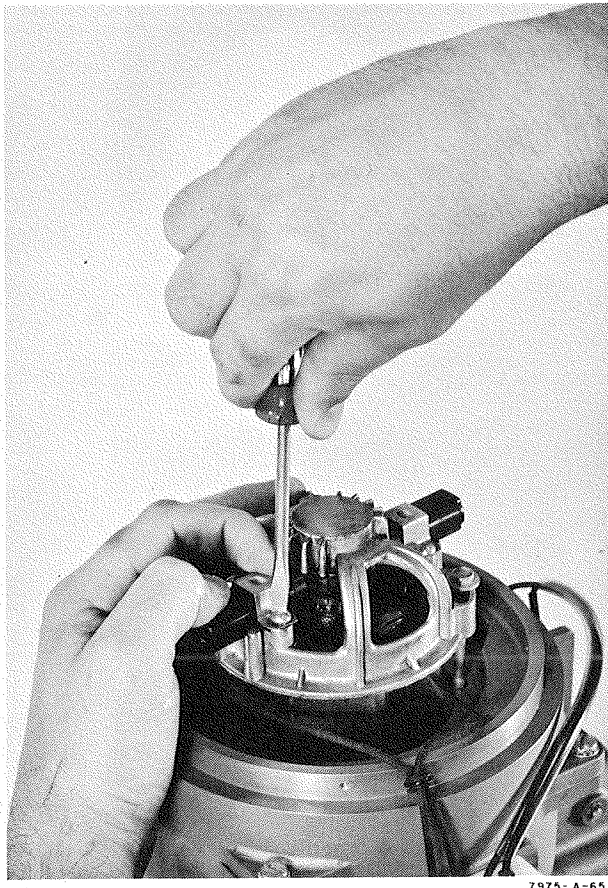

Figure 7-8. Removing Brush Holder
b. Remove brush holder clip as shown in figure 7-8.